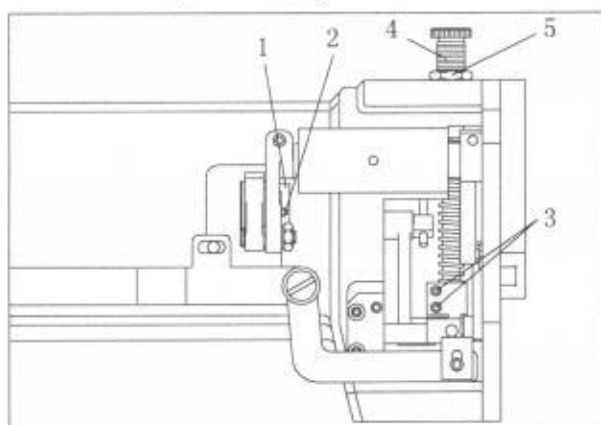

Fig 8
To adjust the pressure of the presser foot, proceed as follows(Fig 8)
- The outer presser foot jump also needs adjusted according to different sewn materials . Loosen the screw 3(Fig 8) and move the outer presser foot up or down to a proper height.
- Movement changes if the inner and the outer presser foot are not equal in position. In this case, the inner presser foot needs adjusting. Put down the presser foot and grasp the inner presser foot. Loosen the screw 3(Fig 8) and move it up or down to a proper height.
- Loosen the screw 2 of the eccentric gear 1(Fig 8).